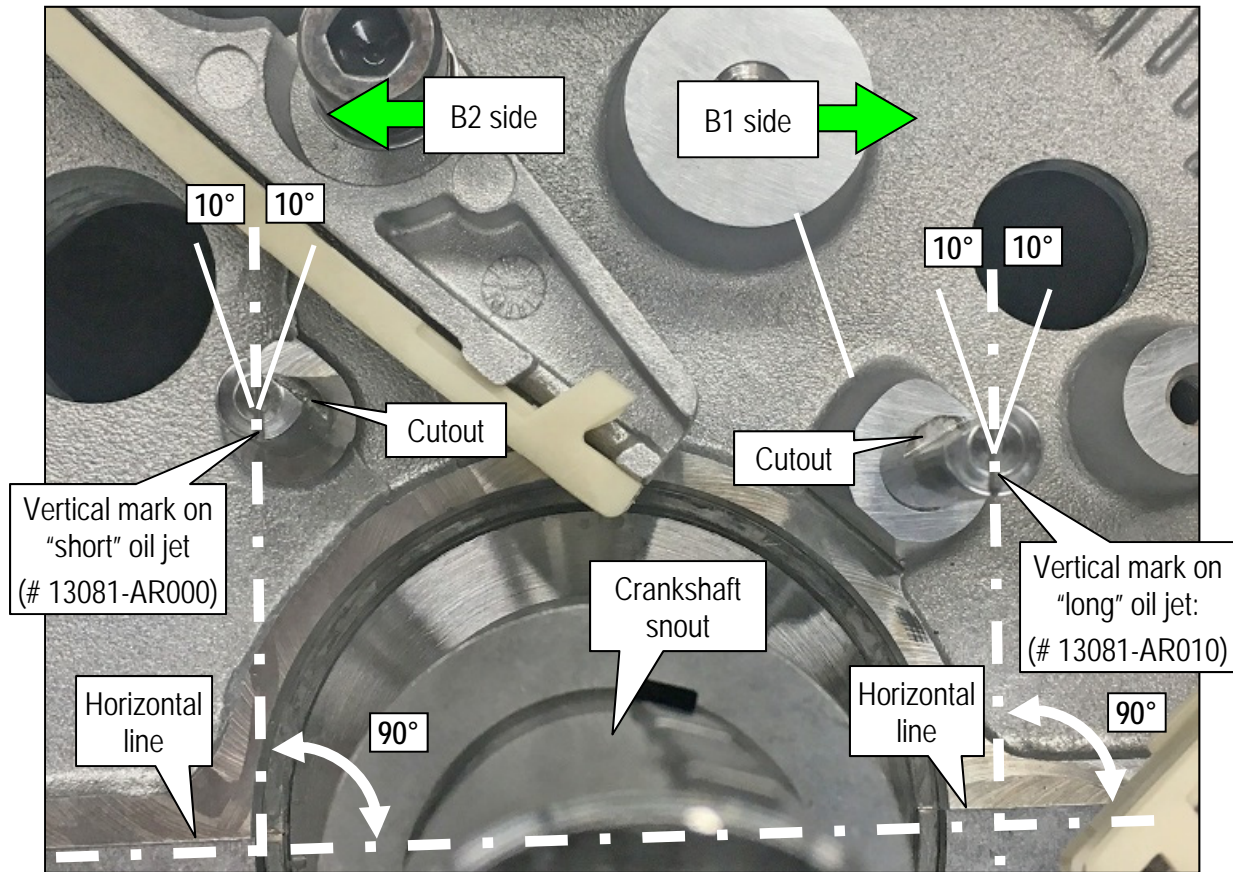
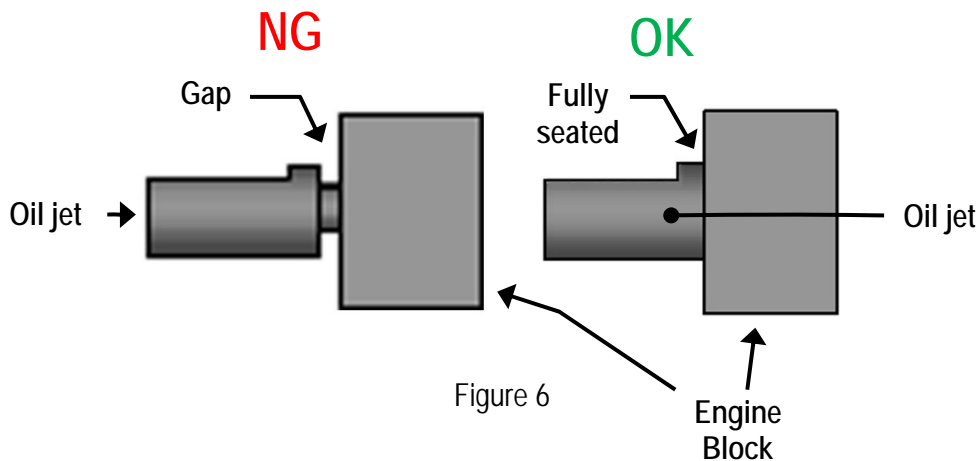

Figure 5
Figure 6
- Install the “short” oil jet on Bank 2 (B2) side, and the “long” oil jet on Bank 1 (B1) side (see Figure 5 and Figure 6).
- Using a suitable tool such as a small ball peen hammer or brass hammer, tap in the oil jet until it is fully seated (see Figure 6).